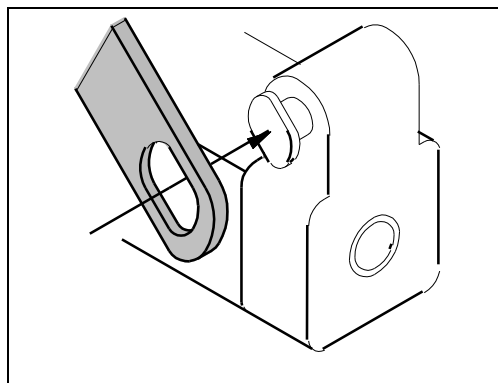

Figure 9 - Attaching the Tension Straps
2. Whilst maintaining the angle of the platform, slip the Tension Strap over the platform T-Bolt, see Figure 9 below.